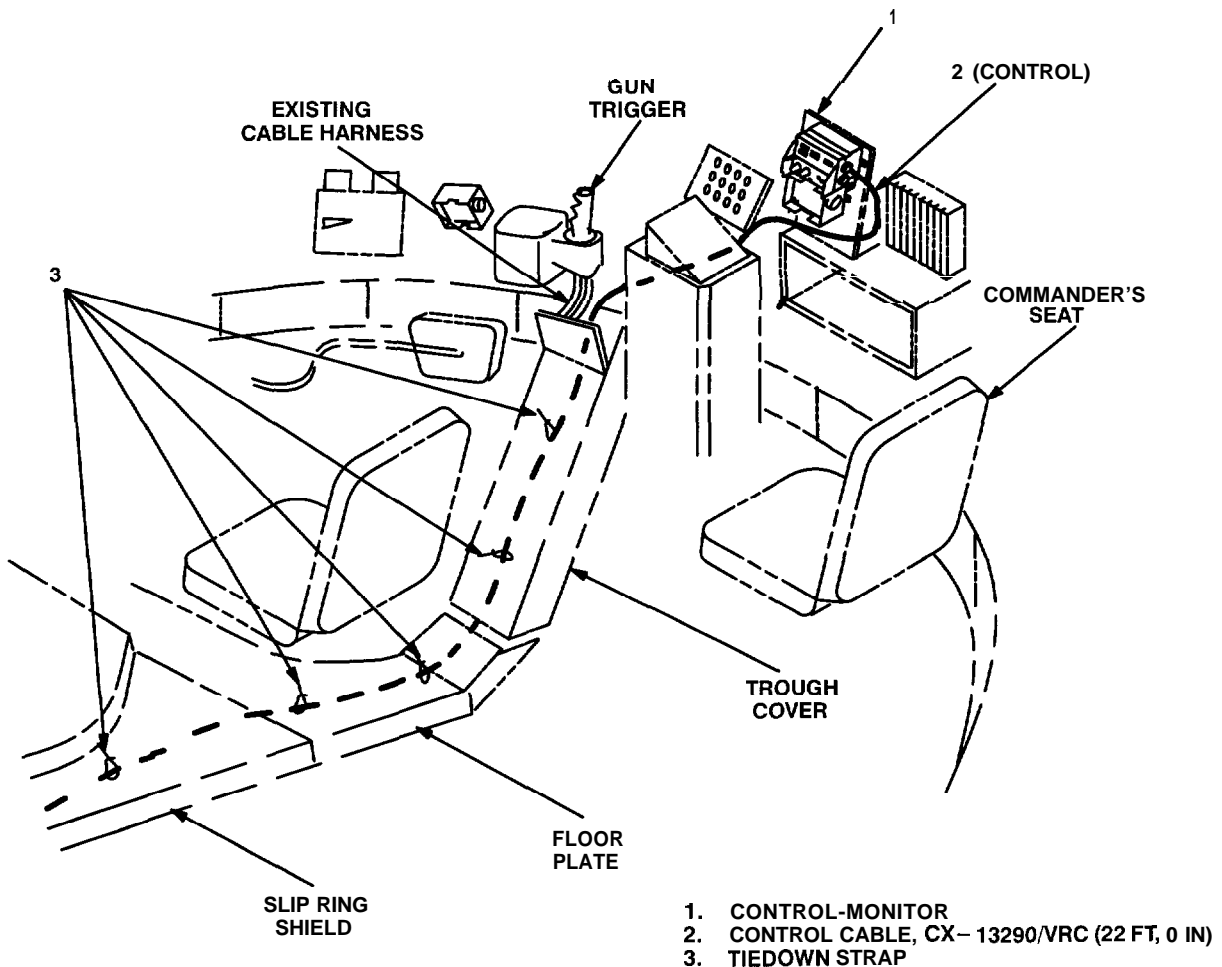

Figure 5-6 (1). Cable Installation: Commander's Station
a. Trough cover, floor plate and slip ring shield.	Temporarily remove. See figure 5-6 (1).
b. Control cable (2).	Route from control-monitor (1) along existing cable harness to loader's station.
c. Control cable (2) connector PI.	Connect and secure to control-monitor (1) connector J1.